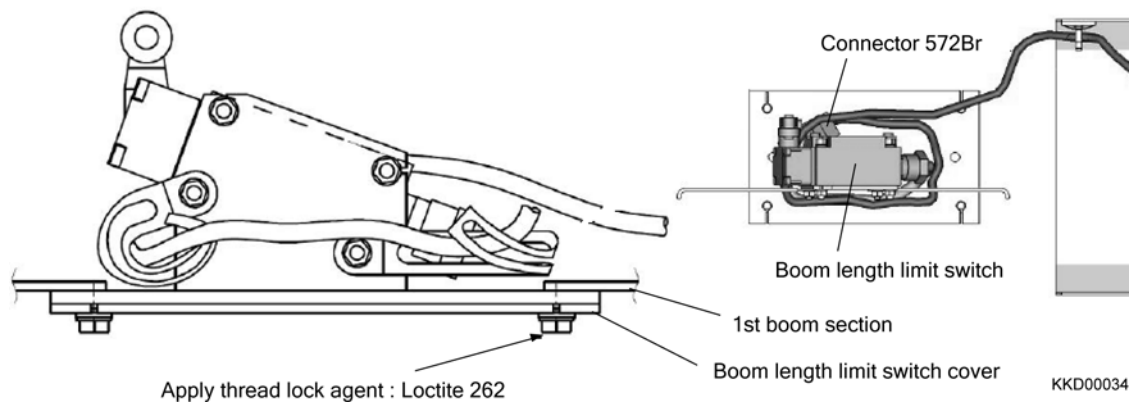

Fig. 2-68
13) Connect the cable for Boom length limit switch (Connector 572Br), Set the cable as shown in Fig. 2-68 to prevent the cable from interference with bottom of 2nd boom section and then install the boom length limit switch cover